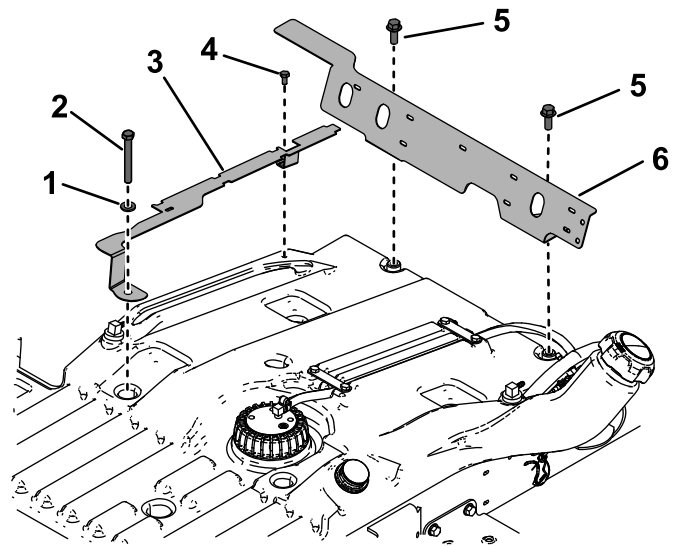

Figure 5
1. Loosely install the fuel-line bracket using 1 bolt (3/8 x 3 inches), 1 washer, and 1 bolt (1/4 x 1/2 inch) that you removed previously (Figure 5).
2. Loosely install the heat shield using 2 bolts (3/8 x 1 inch) that you removed previously (Figure 5).
1. Remove the 2 bolts from the heat shield and the front bolt and washer from the fuel-line bracket (Figure 5).
2. Torque the rear bolt (1/4 x 1/2 inch) on the fuel-line bracket (Figure 5) to 1017 to 1243 N·cm (90 to 110 in-lb).